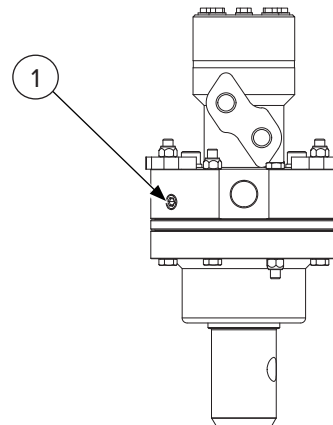

Figure 8
2. Remove the two (2) pivot pins. Clean the pins and housings. Apply a multi-purpose grease.
3. Remove the 1/4” BSP drain plug using an Allen key. See Figure 8, Item 1.
2. Remove the four (4) pivot pins. Clean the pins and housings. Apply a multi-purpose grease.
3. Remove the 1/4" BSP drain plug using an Allen key. See “Figure 8” on page 20.